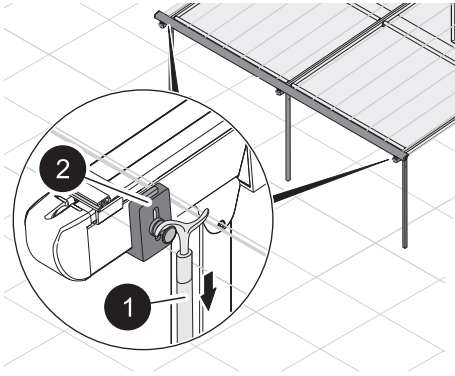

Fig. 19: Release the stop block
2. Release the left and right stop blocks with the hook rod (fig. 19/1). Pull the fabric stop block (fig. 19/2) downward.